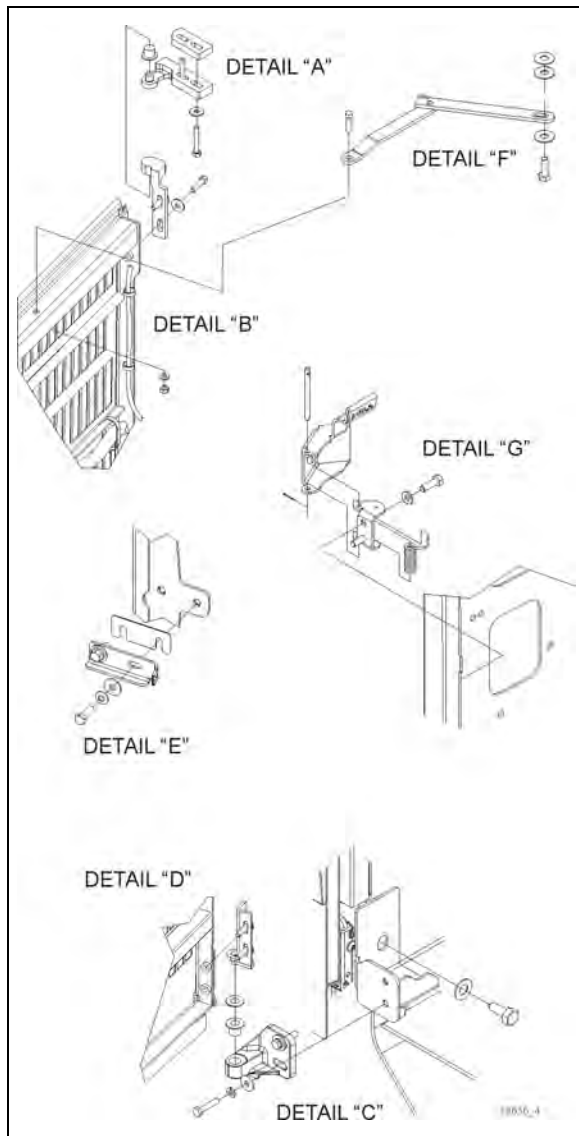

FIGURE 108: RADIATOR DOOR DETAILS
1. Loosen the bolts, ("A" & "C", Figure 108) holding the hinge to the vehicle structure to shift the door "LEFT or RIGHT".
2. Loosening the bolts ("B" and "D", Figure 108) allows the door to be shifted "UP or DOWN".
To adjust the latch mechanism ("E" and "G", Figure 108) and the striker pin:
1. Open the door and slightly loosen the latch tab ("E", Figure 108).